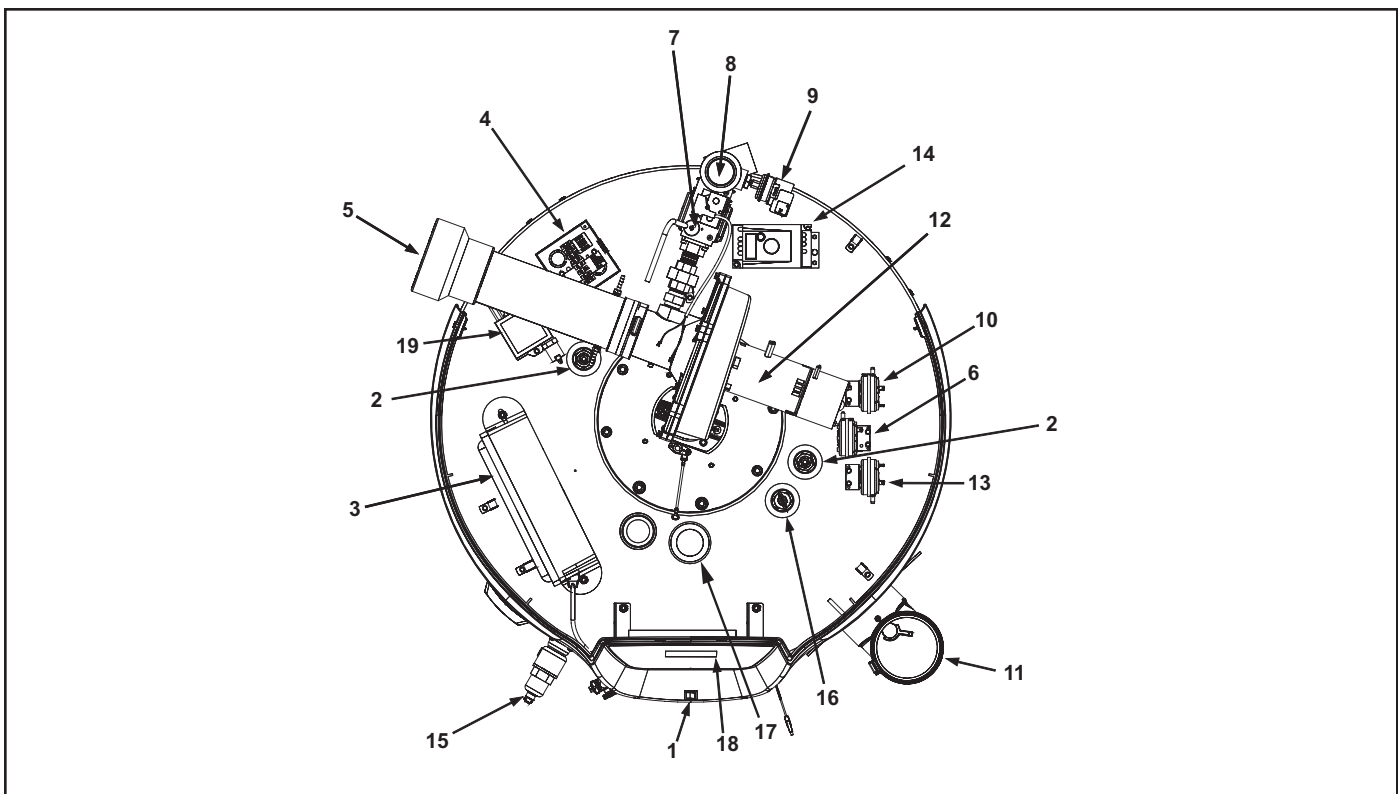

Figure 3
2. CCB enclosure - see Figure 3 on page 8 for description.
6. Low Gas Pressure switch, see description under Figure 3 on page 8. See Table 4 and the Gas Pressure Requirements on page 10.
9. VFD (variable frequency drive) blower motor drive - - see Figure 3 on page 8 for description.